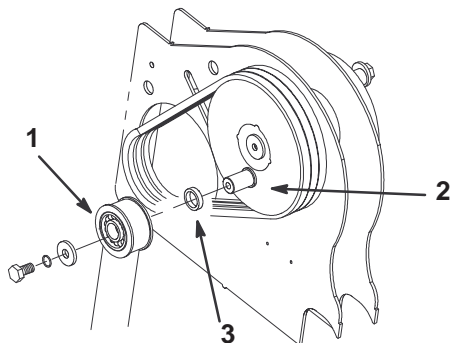

Figure 3
1. Remove the bolt, lock washer, and flat washer securing the tine arm to the pulley (Fig. 3).
2. Slide arm off pulley pin (Fig. 3).
3. Install new tube collar onto pulley pin and over the shoulder (Fig. 3).
4. Install tine arm onto pulley pin and secure with a new (10 mm thick) washer, old lock washer, and new bolt (M16-2 x 35) (Fig. 3). Torque bolt to 166 ft.-lb. (225 N·m).
2. Secure tine arm to pulley with a new (10 mm thick) washer, old lock washer, and new bolt (M16-2 x 35) (Fig. 3). Torque bolt to 66 ft.-lb. (89 N·m).